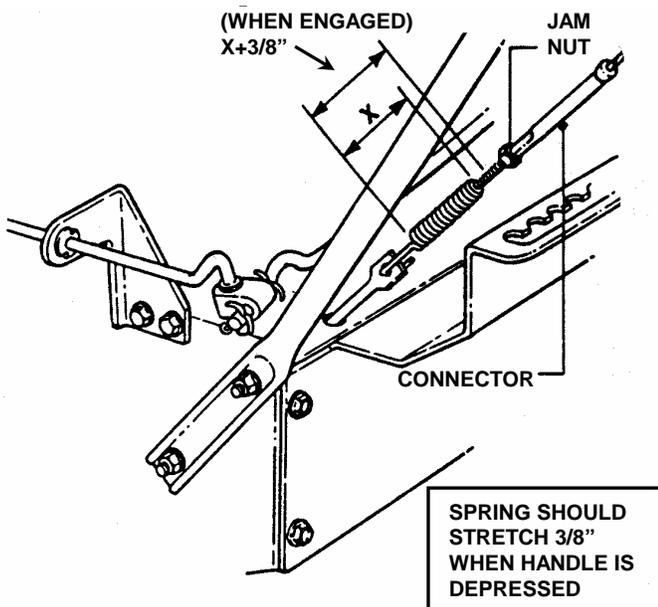

FIGURE 4.1
1. Measure control cable extension from a relaxed position to full extended position. Move control lever against handle. Measure from the top of spring (The top is in relation to where spring connects into connector). Proper extension should be $3/8"$ extension. See Figure 4.1.